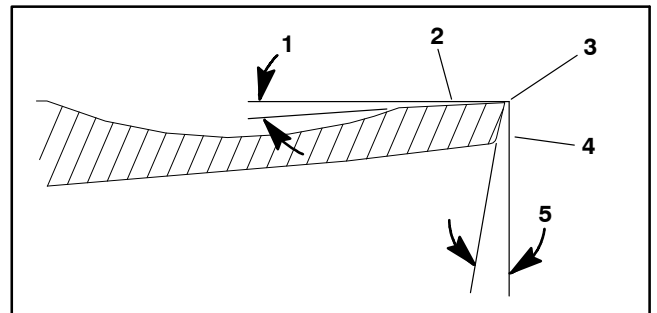

Figure 17
7. When the backlapping operation is completed and cutting reel is stopped, run a file across the front face of the bedknife (Fig. 17). This will remove any burrs or rough edges that may have built up on the cutting edge.